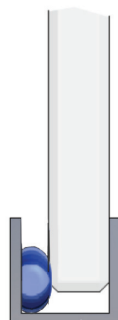
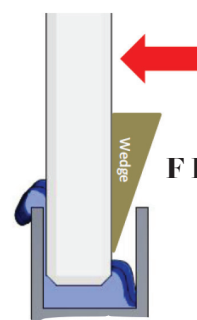

FIG 9.
FIG 10.
- Slide glass panel into position (FIG 9) and use small wedges (FIG 10) or a flat plastering blade to slide glass panel back to inside edge of channel and against silicone.